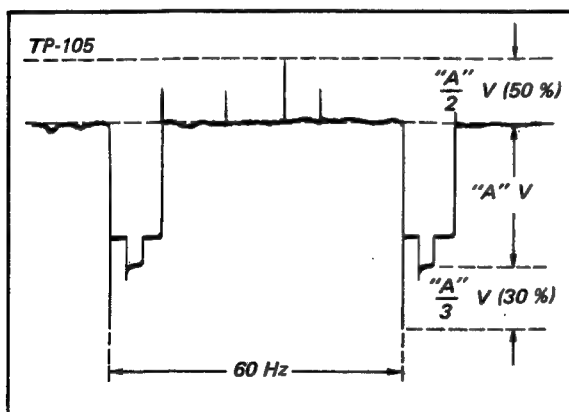

Fig. 5-1b. White clip and dark clip levels
- "12. Adjust R155 so that the negative spike in the vertical blanking pulse falls 30% below sync tip amplitude. See Fig. 5-1b."